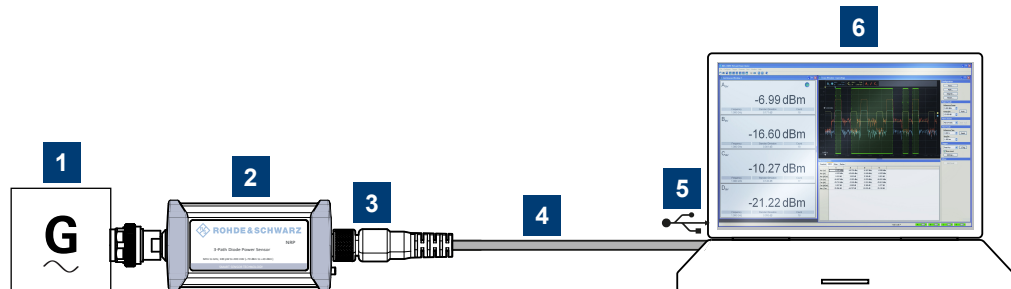

Figure 5-2: Setup with an R&S NRPV
2. Connect the power sensor to the computer as shown in Figure 5-2.